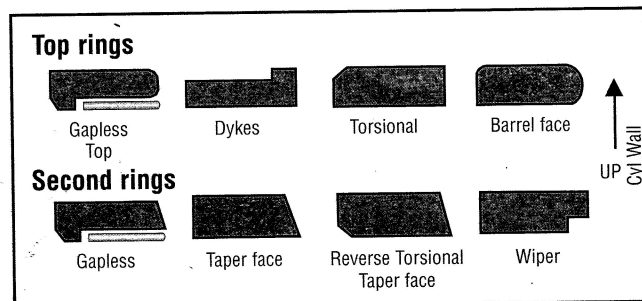

Fig. 3
- 3) Rings without dot or inner bevel install either side up (see fig. 3).
- 1) Install rings with marked side up (see fig. 3).